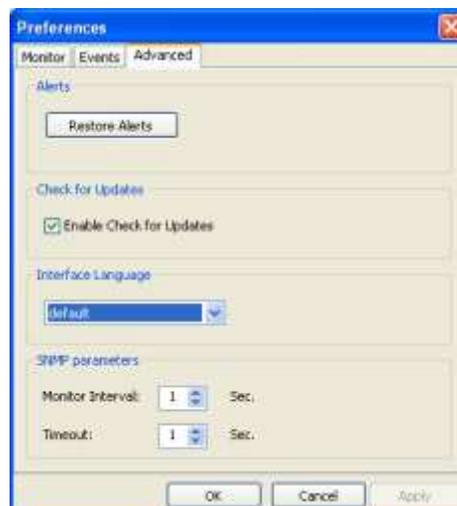

Figure 5-7. Preferences Dialog Box, Advanced Tab
2. Click the **Advanced** tab (see *Figure 5-7*).